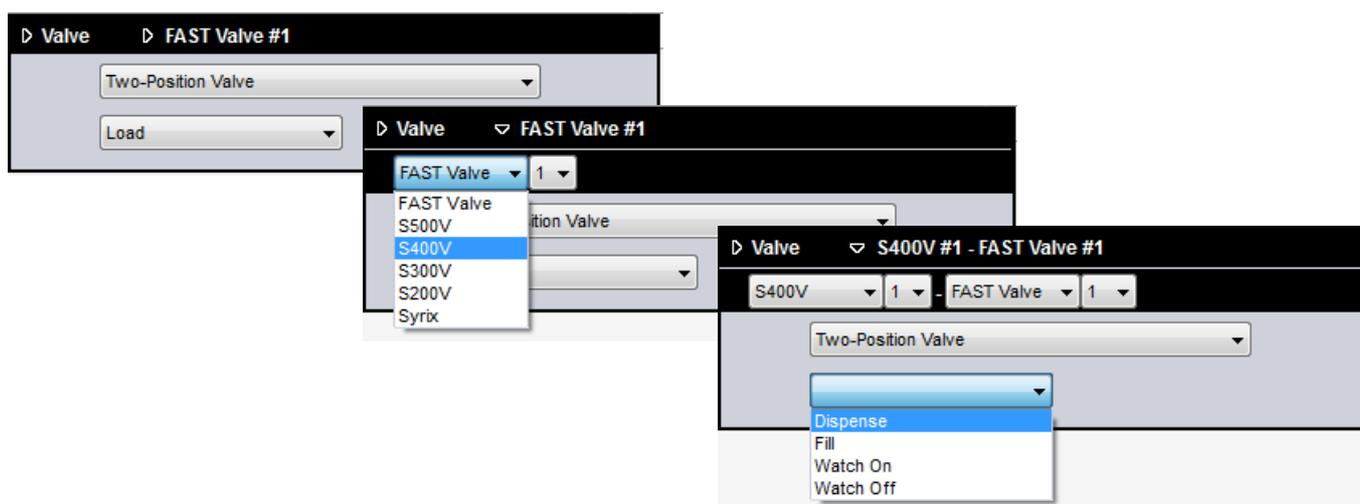

Figure 14-35. Pop-up Dialog with Detailed Specification of First Action Item
7. Specify the details for the action by editing the pop-up dialog. The following screenshots show an example on how you can select several features from the pop-up dialog to specify the action, see Figure 14-35. Note that sub-menu items become visible when you click the triangle.
The example shown in Figure 14-35 creates *S400V-V1 Dispense* from the selected *FAST Valve 1 Load* Action.